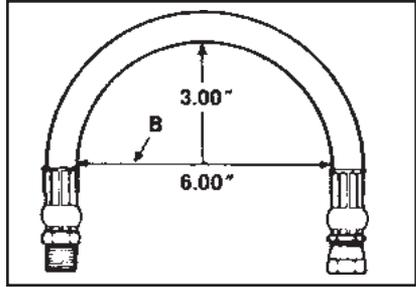

Fig. 8
9. Keep the bend radius of the hose as large as possible to avoid collapsing the hose and restriction of flow. Minimum bend radius is measured on the inside bend of the hose. To determine minimum bend, divide the total distance between ends (B length) by 2. For example, B = 6", minimum bend radius = 3". **(Fig. 8)**